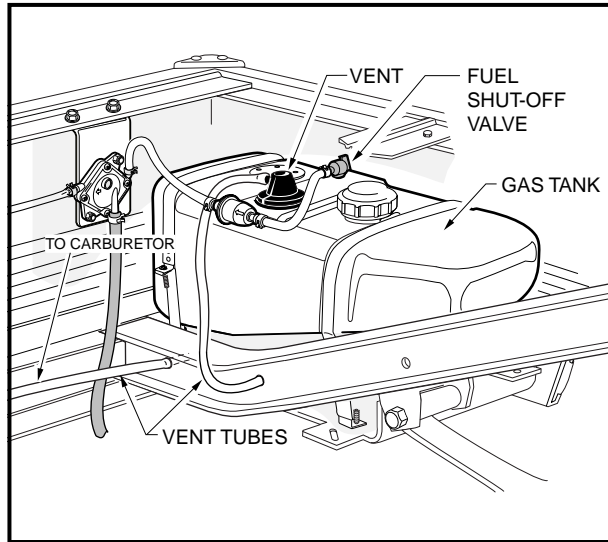
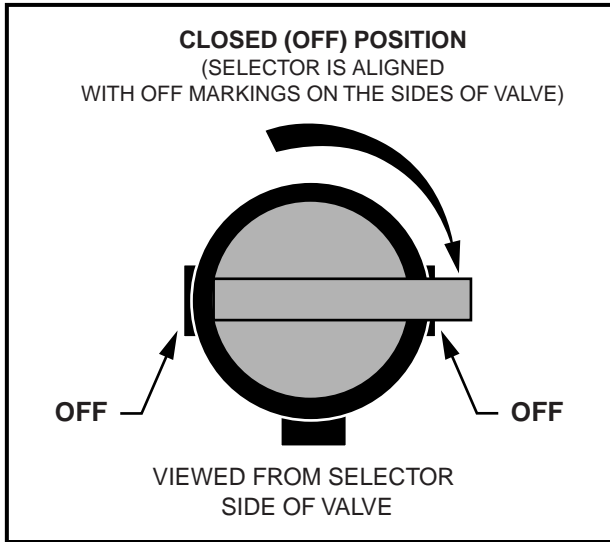
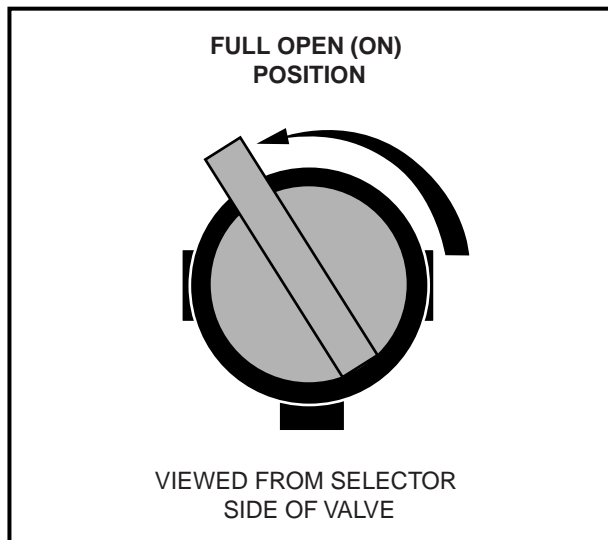
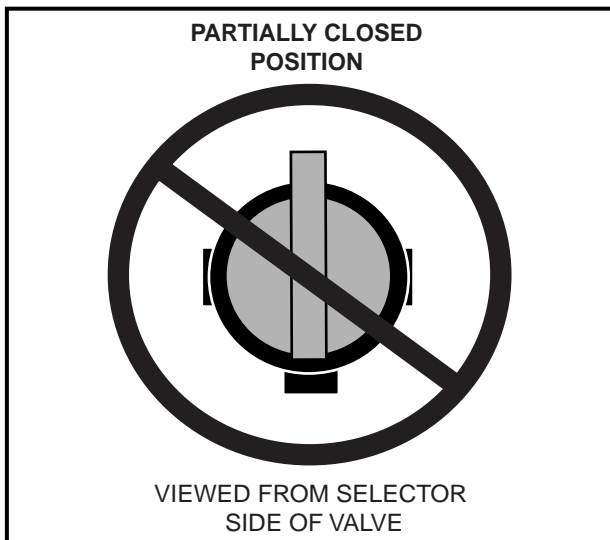

Figure 3-14 Fuel Tank, Vent, and Lines
Figure 3-15 Fuel Shut-Off Valve – Closed Position
Figure 3-16 Fuel Shut-Off Valve – Open Position
Figure 3-17 Incorrect Fuel Shut-Off Valve Setting
2. Turn the key switch to OFF and place the Forward/Reverse handle in the NEUTRAL position. Remove the key when the vehicle is not in use. For gasoline vehicles, turn the fuel shut-off valve to closed (OFF) position when the vehicle is not in use (**Figure 3-15, Page 3-14**).
- **GASOLINE VEHICLE:** TURN FUEL SHUT-OFF VALVE TO **OFF** (FIGURE 3-14, PAGE 3-14).
- 3.1. Place the Forward/Reverse handle in the NEUTRAL position and the neutral lock-out cam in the SERVICE position (**Figure 3-9, Page 3-6**). Turn the fuel shut-off valve to the closed (OFF) position (**Figure 3-14, Page 3-14 and Figure 3-15, Page 3-14**) and run the engine until fuel remaining in the carburetor and fuel lines is used up and the engine stalls. Return the neutral lock-out cam to the OPERATE position (**Figure 3-10, Page 3-6**).
- 3.3. Disconnect fuel vent line from fuel tank vent nipple (**Figure 3-14, Page 3-14**).
- 1.1. Remove plug from the fuel tank vent nipple and connect the vent line to the nipple. Turn the fuel shut-off valve to open (ON) (**Figure 3-14, Page 3-14 and Figure 3-16, Page 3-14**). Make sure the valve is fully open (**Figure 3-16, Page 3-14**). A partially closed fuel valve (**Figure 3-17, Page 3-14**), combined with the use of the choke can result in a fouled spark plug and engine failure.